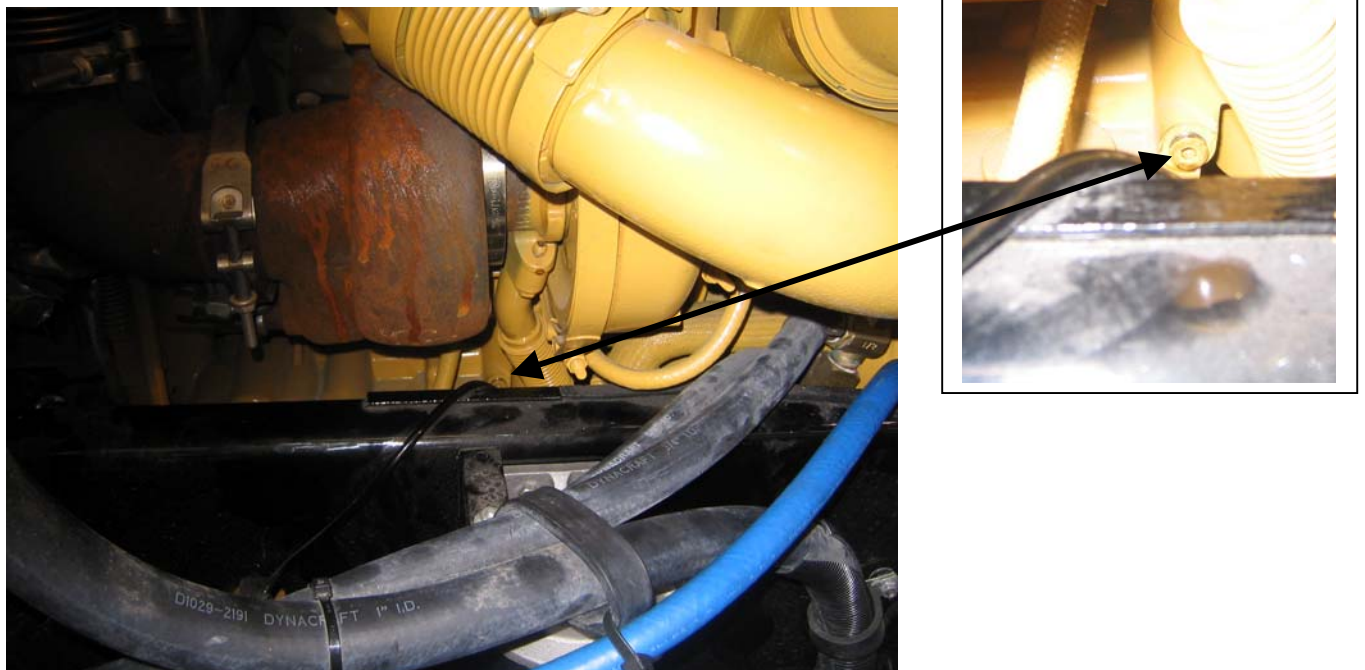

Figure 6 – The Oil Supply Line Plug
1. Locate the plug. See Figure 6.